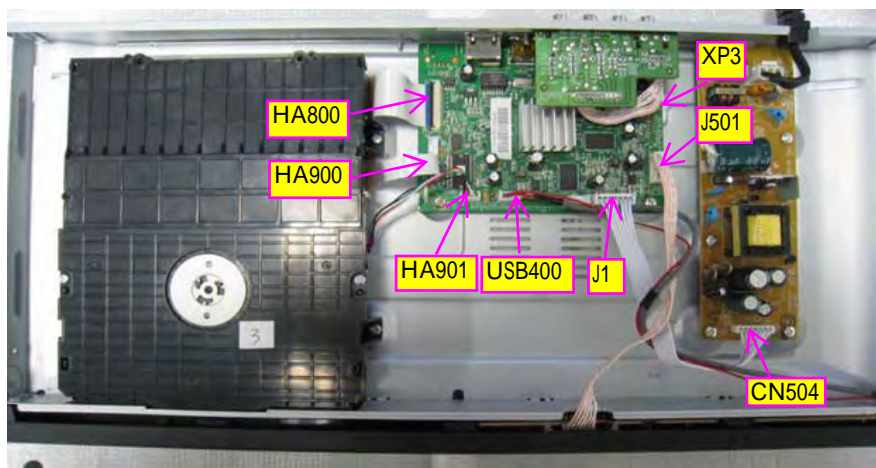

Figure 4
**Step4:** Dismantling Front Panel, disconnect the connectors (J501, USB400), need release 2 snaps of Front Panel and 2 snaps of bottom cabinet , then gently pull the Panel out from the set. (Figure 4 - Figure 5)